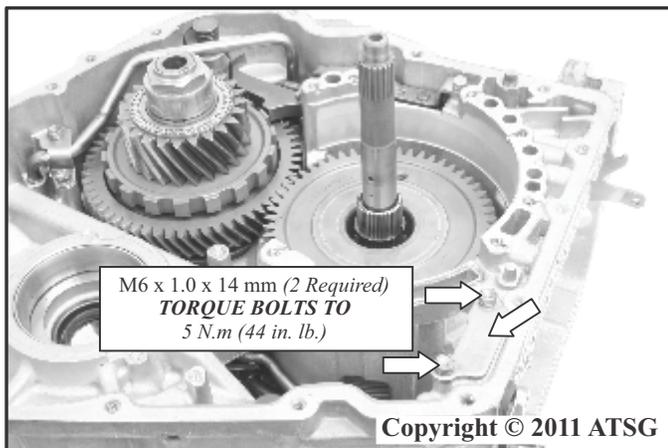

Figure 237
63. Install the transmission case fluid passage cover as shown in Figure 237.
64. Install the two transmission case fluid passage cover retaining bolts  $M6 \times 1.0 \times 14 \text{ mm}$  as shown in Figure 237.
65. Torque the bolts to  $5 \text{ N.m}$  ( $44 \text{ in. lb.}$ ) as shown in Figure 237.